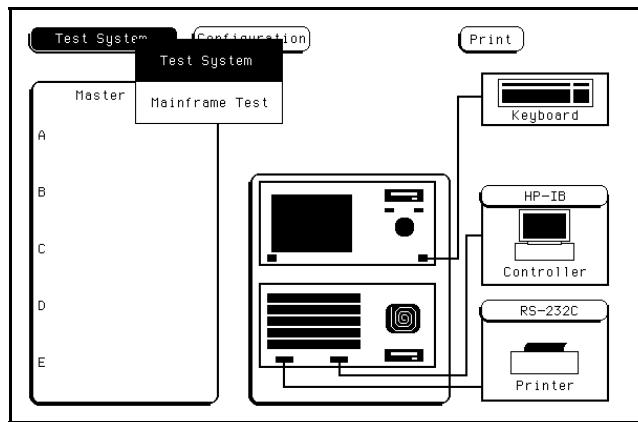

Figure 4-5. Selecting Mainframe Test Menu
5. Touch the **Test System** field, then select **Mainframe Test** from the pop-up menu. See figure 4-5.